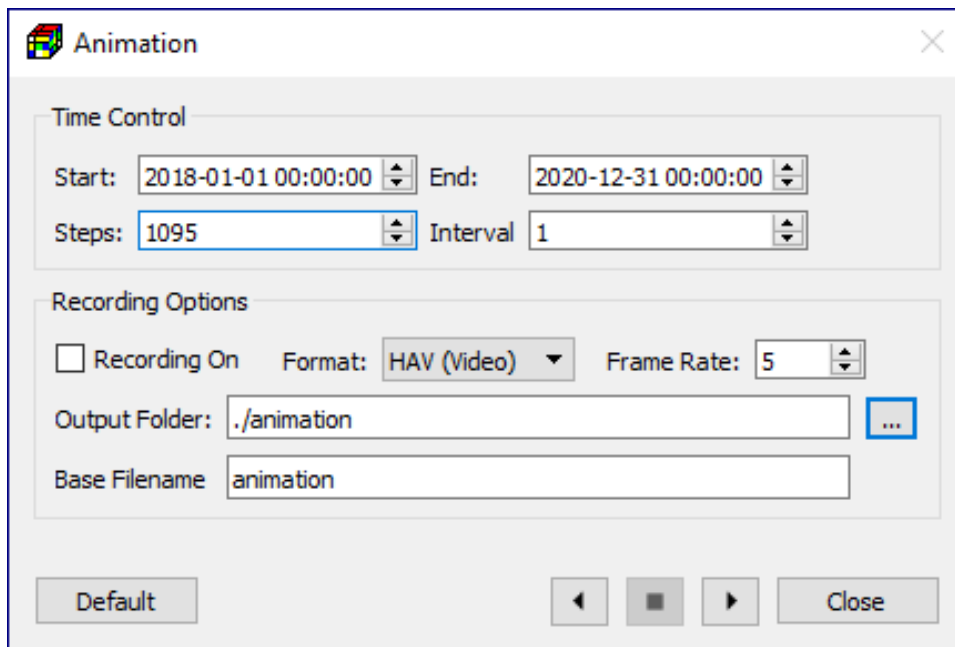

Figure 28. The Animation dialog box
1. Select File > Animation to open the Animation dialog box (Figure 28)
2. Assign the settings to the dialog box as shown in Figure 28.